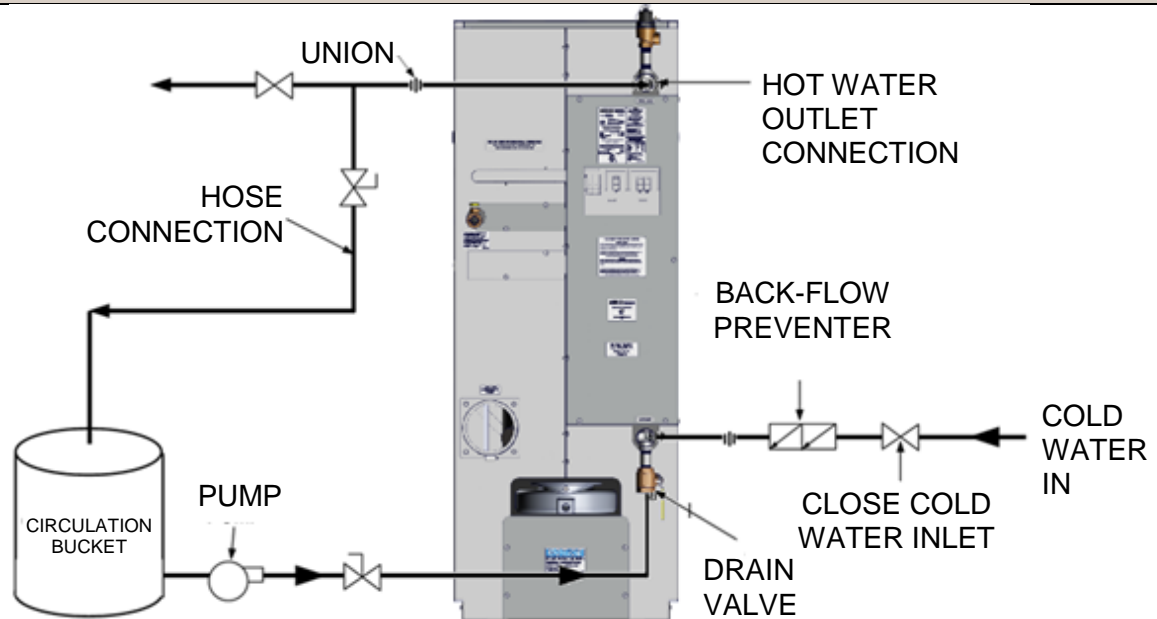

Figure 6-9. Sample Heat Exchanger Cleaning Set-Up
A sample pumping set-up diagram is shown in Figure 6-9 for an Innovation Water Heater. As this diagram shows, heat exchanger cleaning is accomplished by pumping the HydroSkrub solution from a large circulating bucket to the heat exchanger drain valve, through the heat exchanger and then out through the output connection of the heater. Set up the pumping system as follows:
5. Close the unit drain valve and connect a suitable size bucket and pump to the unit drain as shown in Figure 6-9.
6. Install a “T”, ball valve and hose connection in the outlet piping of the heater (Figure 6-9). Route the hose back to the top of the circulation bucket.